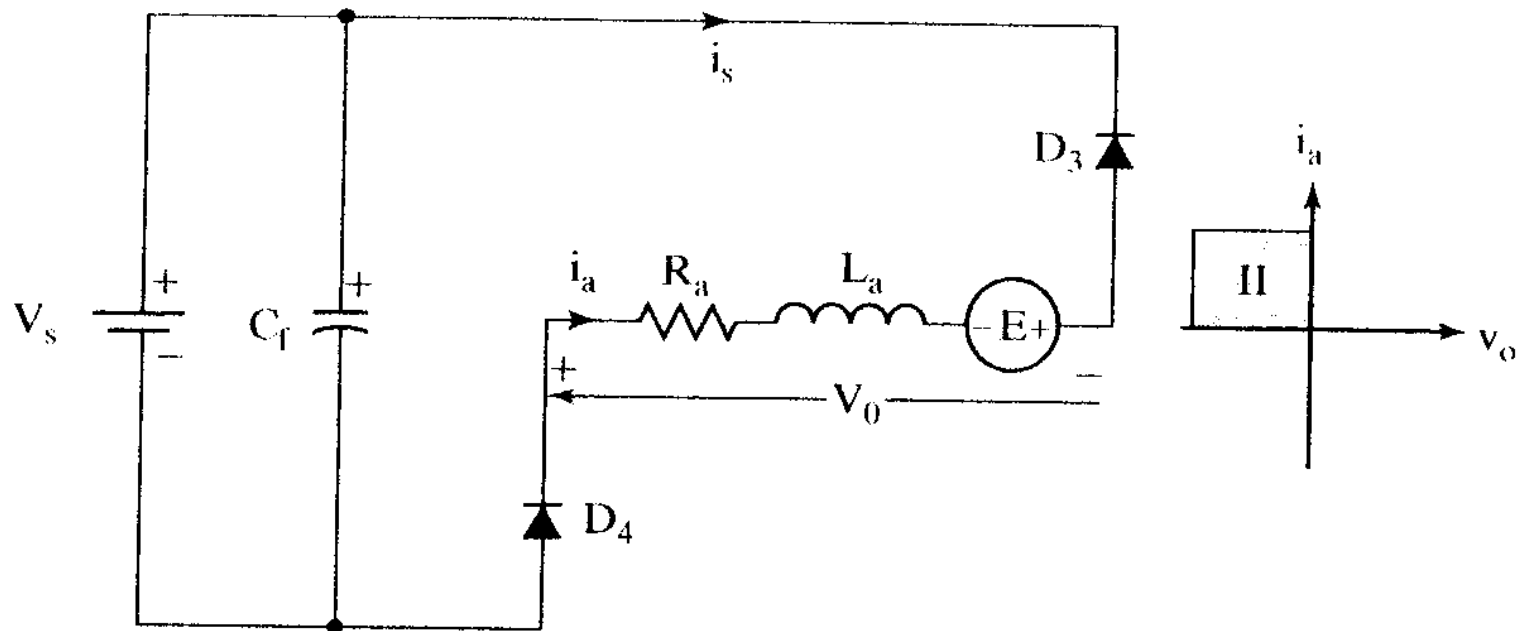

**Figure 4.4** First-quadrant operation with zero voltage across the load
- Fig. 4.4 is first-quadrant operation with zero voltage across the load.